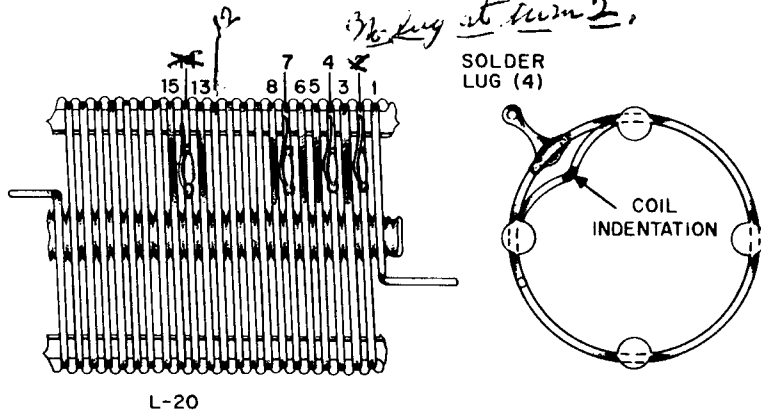

FIGURE 23. L-20 PREPARATION
- L-20, the large coil and ~~four~~ ^{EACH} #8 solder lugs. Bend the solder lugs around the coil windings and solder in place as shown in Figure 23.
- Tubing covered heavy bare wire from the large grommet. Solder the free end to solder lug #2 of L-20. *SOLDER FREE END TO DOUBLE SOL LUGS as in FIG (21)*